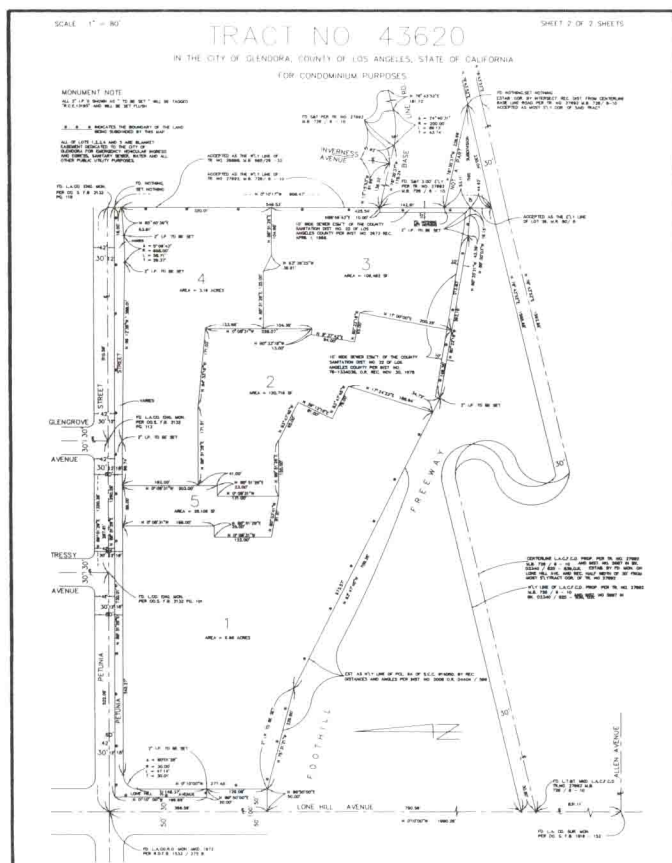

Fig. 1-8. This land survey is an example of civil drafting. (G. Bart Stryker)
**Civil drafting.** *Civil drafting* is the process of making drawings that describe land terrain, road systems, and utility systems, Fig. 1-8. With CAD, diagrams can be drawn and modified easily.